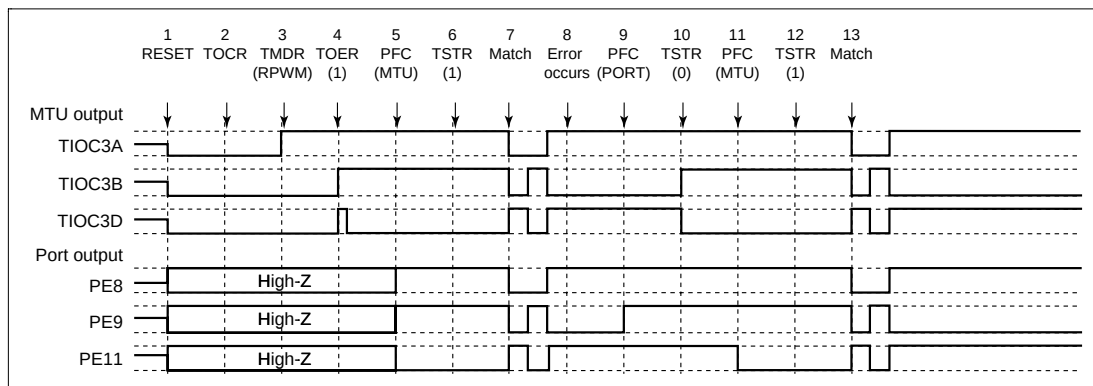

**Figure 12.124 Error Occurrence in Reset-Synchronous PWM Mode, Recovery in Reset-Synchronous PWM Mode**
**(28) Operation when Error Occurs during Reset-Synchronous PWM Mode Operation, and Operation is Restarted in Reset-Synchronous PWM Mode:** Figure 12.124 shows an explanatory diagram of the case where an error occurs in reset-synchronous PWM mode and operation is restarted in reset-synchronous PWM mode after re-setting.